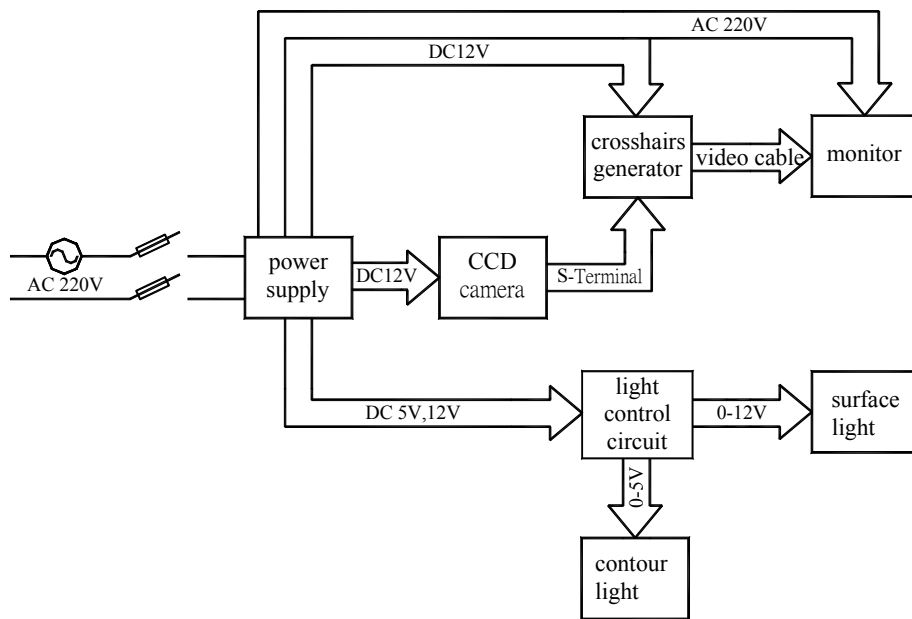

Figure2. Illustration of VMS Running
2. The surface light (5) or the contour light (within the base) of the LED illuminates it.
3. It is imaged by the zoom lens (16) and photographed by the CCD color camera (in the shell 20).
4. It is transferred to the color monitor (18) through S-Terminal. Based on the video crosshairs (17) produced by the crosshairs generator (15) on the monitor, it is measured by the way of aiming and the linear scales driven by the worktable (14) moving in the direction of X-Y axes.
5. The measurement is accomplished after the DC3000 DRO (2) displays the measured and processed data. The working principle of the video system is displayed as in figure2.